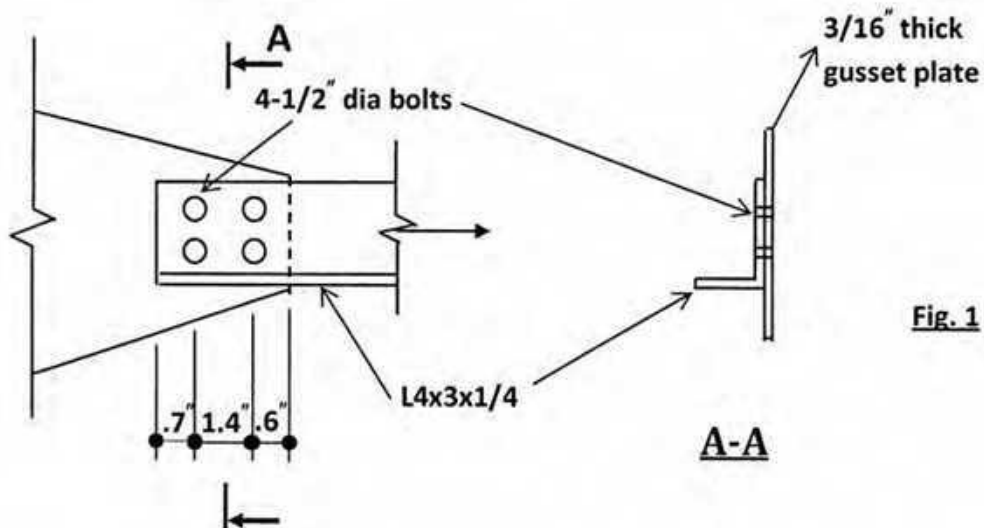

Fig. 1
1. Determine the maximum allowable tension for the bolted joint shown in Fig.1, based on shear and bearing or tearing, as applicable. The force is transmitted through the joint from an L4x3x1/4 to the 3/16" thick gusset plate with long leg connected to the gusset plate. All material is A36. Bolts are 1/2-in. A325 (standard holes) in a bearing type connection with threads not excluded from shear planes. Given: Allowable shear stress and bearing stress are 30 ksi and $1.2F_u$ respectively when threads are excluded from shear planes. These values are 21 ksi and $1.2F_u$ respectively, if threads are not excluded from shear planes. Allowable stress of $1.2F_u$ in bearing is applicable when end distance L_e and between connector spacing L are at least $1.5d$ & $3d$ respectively, where d is the diameter of bolts.